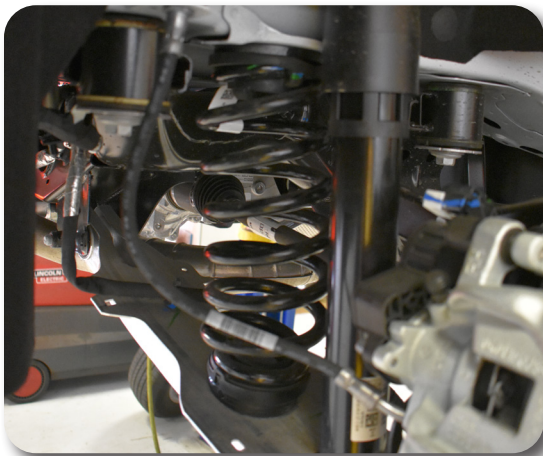

Figure 21
9. Once the spacers and isolators are installed, the coil spring can be put in position. You will have to use one hand or a friend to pull the lower control arm down to make clearance for the spring to be installed. **Figure 21**